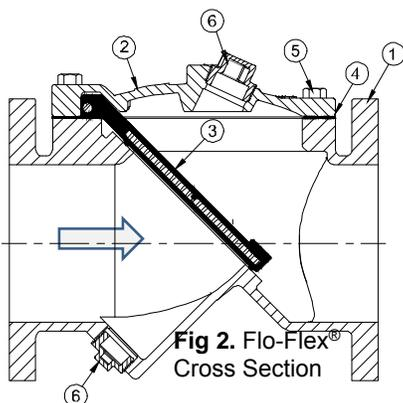

Fig 2. Flo-Flex®
The Flomatic® Flo-Flex® Swing Check Valve is constructed of rugged Ductile Iron with a rubber encapsulated valve disc. The rubber coated valve disc is the only moving part assuring long life with minimal maintenance. The general details of construction are illustrated in Fig. 2. The body (1) flanged for connection to the pipeline with an access cover (2), disc (3) is retained by the cover.
<ol style="list-style-type: none"> <li>Relieve pressure and drain the pipeline. Refer to Figure 2 on page 2. Remove the cover bolts (5) on the top cover.</li> <li>Pry cover (2) loose and lift off valve body. 12" and larger valves have tapped holes in cover for lifting eyes.</li> <li>Remove disc (3) and inspect for cracks, tears or damage in rubber sealing surface.</li> <li>Clean and inspect parts. Replace worn parts as necessary and lubricate parts with FDA/NSF grease such as "Super Lube".</li> </ol>	<p>All parts must be cleaned. Gasket surfaces should be cleaned with a stiff wire brush in the direction of the serrations or machine marks. Worn parts, gaskets and seals should be replaced during reassembly.</p> <ol style="list-style-type: none"> <li>Lay disc (3) over seat with beaded seating surface directed down.</li> <li>Lay cover gasket (4) and cover (2) over bolt holes and disc hinge.</li> <li>Insert lubricated bolts (5) noting that the bolts in the hinge area are longer than the other cover bolts.</li> <li>Cover bolts should be tightened to the specifications shown in Table 2 (next page) during re-assembly.</li> </ol>